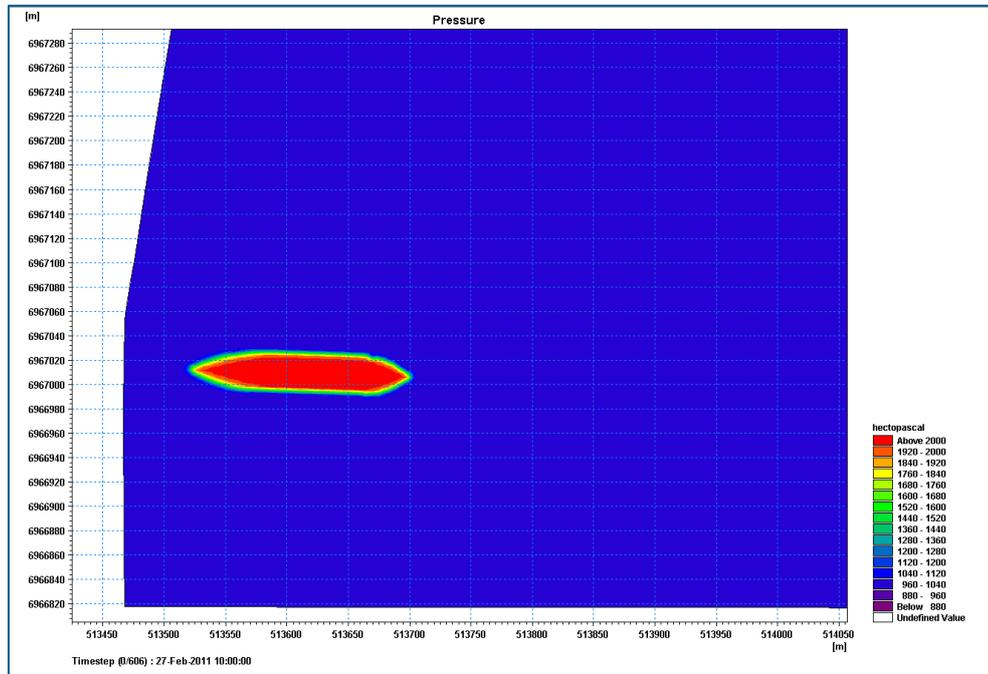

Figure 3-7 Vessel Pressure field dfsu - Pressure item
22. Check that the pressure field generated has three items (Wind X, Wind Y, Pressure). The 2 Wind component items will be 0, whereas the Pressure item will show the vessel moving through the pressure field as seen in Figure 3-7 below. This dfsu file will be used in the ensuing HD simulation.